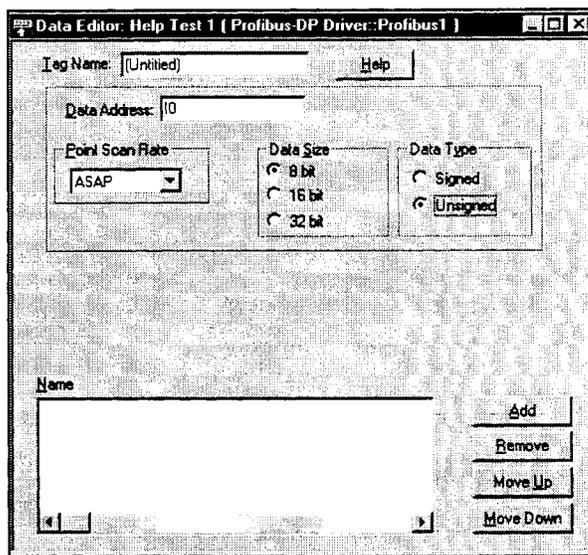

Figure 5. Profibus-DP Data Point Configuration Form
2. Double-click on the driver name for which you want to configure tag names. The Profibus-DP data point configuration form opens, as shown in Figure 5.